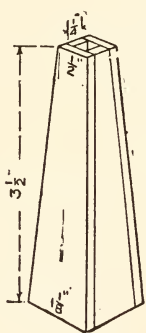

FIG. 296.
**The Round Center-Table** (Fig. 292) should have a base built up of four strips as shown in Fig. 296. Cut the circular top 5 inches in diameter. A saucer may be used with which to mark this out.